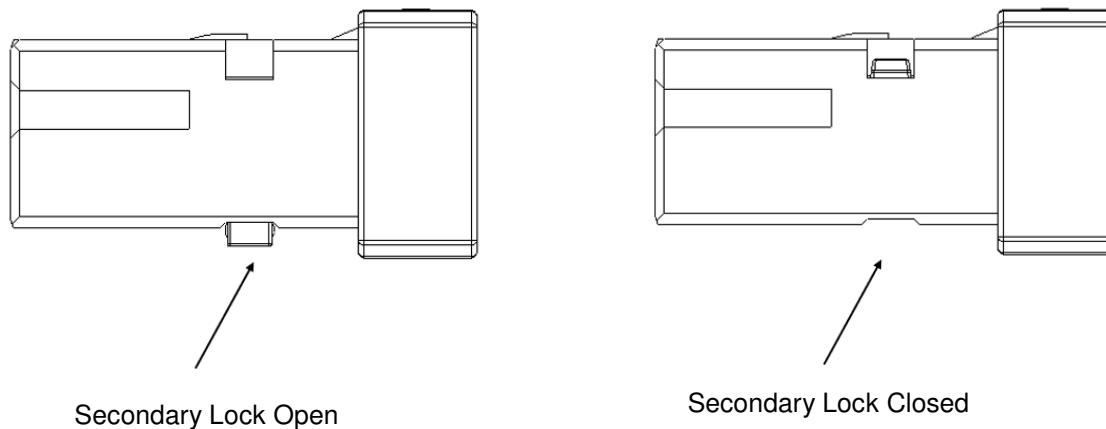
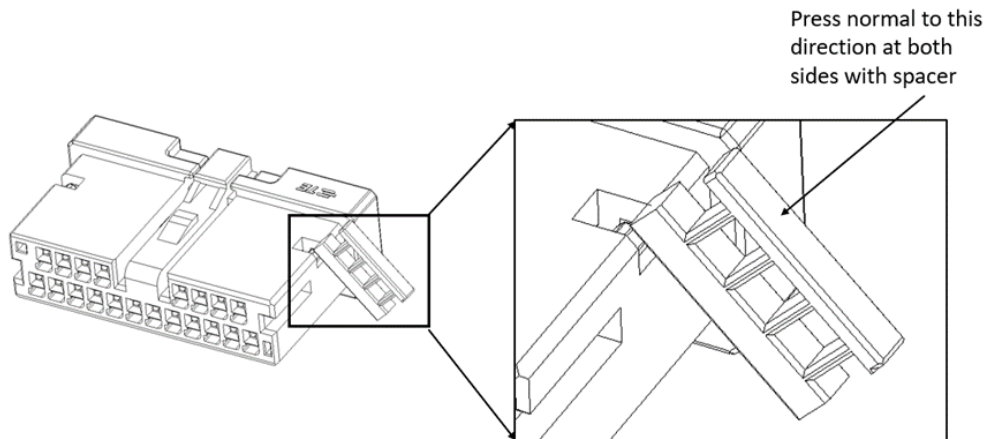

Figure 2
Figure 6
The connector housings are shipped with the secondary locks in an open position, however, during shipping, the secondary locks may become closed. Make sure the locks are in the OPEN position before any contacts can be inserted into those contact cavities. See Figure 2.
3.2.1 Press second lock as Figure 6 shows to make second lock to open status as Figure 2.